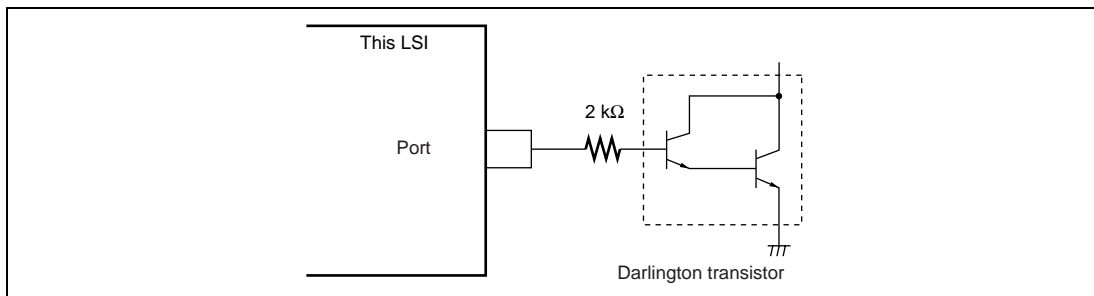

Figure 24.1 Darlington Transistor Drive Circuit (Example)
- When driving a Darlington transistor directly, always insert a current-limiting resistor in the output line, as shown in figure 24.1.